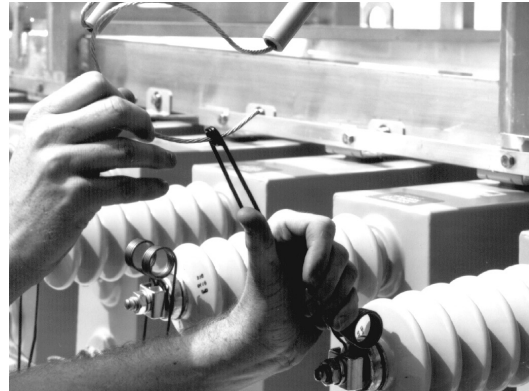

Figure 6.
- C. Thread the fuse link lead wire through the eye of the ejector spring as shown in Figure 6. It is important the lead wire be routed over the top of the eye then back through the eye as displayed. Pull the eye of the ejector spring to a point where it touches (or is directly beneath) the end of the fuse tube.